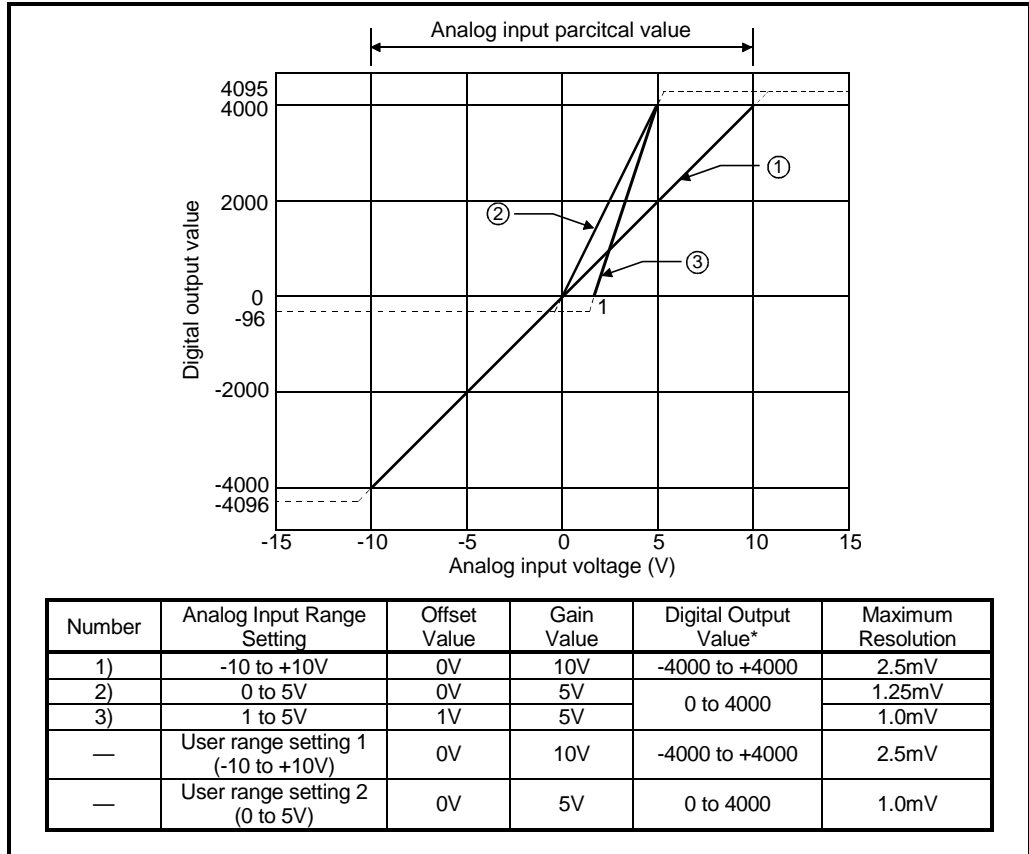

Fig. 3.1 Voltage Input Characteristic
- (1) Do not input more than ±15V. The element may be damaged.
- (2) If the analog input provided corresponds to the digital output value* beyond its range, the digital output value is fixed to the maximum or minimum.
- (3) Within the analog input and digital output scopes of each input range, the maximum resolution and accuracy are within the performance specification range. Outside those scopes, however, they may not fall within the performance specification range. (Avoid using the dotted line part in Fig. 3.1.)
- (4) Set the offset and gain values of the user range setting within the range satisfying the following conditions.